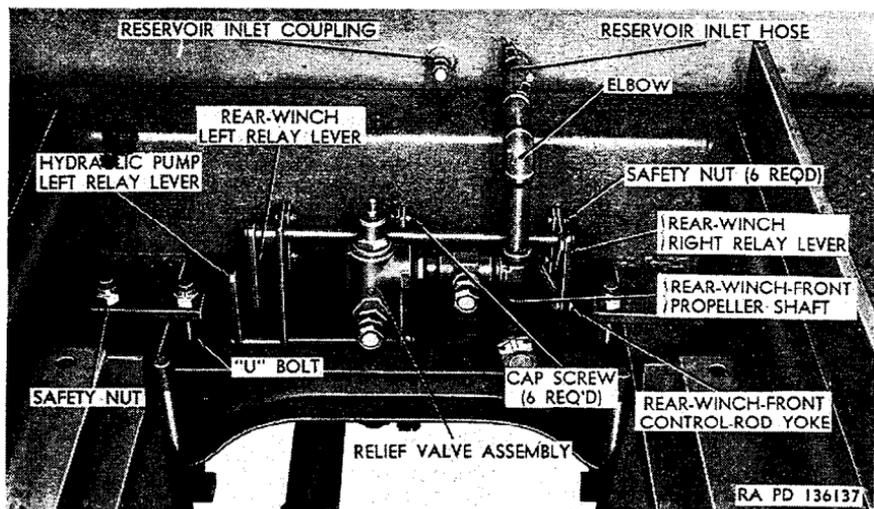
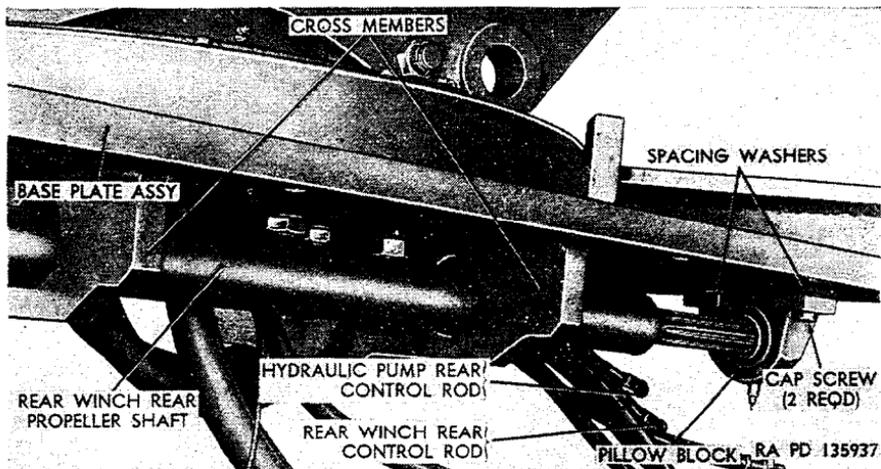

Figure 275. Rear view of forward end of wrecker body with crane removed M62.
Figure 278. Right side view of underside of crane base plate removed from vehicle M62.
- (2) *Winch-drive.* Power for operating the winch is supplied by the truck engine through a power-take-off (par. 208a(4)), which is connected by a propeller shaft to the power divider (par. 268a(4)). A forward propeller shaft (fig. 275) and a rear propeller shaft (fig. 276), connected by a universal joint which is supported by a pillow block (M, fig. 277), extend from the power divider to the bearing assembly (fig. 276) bolted to the rear of the wrecker body. A drive sprocket secured to the rear end of the bearing assembly shaft is connected by a drive chain to the driven sprocket secured to the front end of the winch drive shaft. The driven sprocket is secured to the drive shaft by a shear pin which prevents damage to the winch resulting from overloading.
- (4) *Control linkage.* The rear winch control linkage is comprised of the winch shift lever (fig. 276), rear control rod (fig. 278), relay levers (fig. 275), and front control rod. The rear end of the rear control rod is connected to the lower end of the winch shift lever by a yoke and pin. The front end of the rear control rod is connected to the left relay lever (fig. 275) by a yoke and pin. The rear end of the front control rod is connected to the right relay lever (P, fig. 277) by a yoke and pin. The front end of the front control rod
- (1) Disconnect front propeller-shaft front universal joint from yoke on power-divider winch output shaft (par. 211*a*(1)).
- (2) Pull propeller shaft toward front of vehicle, removing rear universal joint with slip yoke assembly from front (splined) end of rear propeller shaft (fig. 278).
- (3) Disconnect front propeller-shaft rear universal joint from rear propeller shaft slip yoke (par. 211*a*(1)).
- (4) Remove universal joint at each end of front propeller shaft (par. 211*a*(3)).
- (1) Install universal joint at each end of front propeller shaft (par. 211*b*(1), (2), and (3)).
- (2) Attach rear propeller shaft slip yoke to front propeller-shaft rear universal joint (par. 211*b*(4) and (5)).
- (3) Slide rear propeller shaft slip yoke, with front propeller shaft attached, on front (splined) end of rear propeller shaft (fig. 278).
- (4) Connect front propeller-shaft front universal joint to yoke on power-divider winch output shaft (par. 211*b*(4) and (5)).
- (1) Disconnect front propeller-shaft rear universal joint from slip yoke on front (splined) end of rear propeller shaft (par. 211*a*(1)).
- (2) Slide slip yoke from front end of rear propeller shaft (fig. 278).
- (3) Remove two cap screws (fig. 278) securing pillow block to underside of base plate, and remove spacers from between base plate and pillow block.
- (4) Loosen setscrew securing pillow-block-bearing inner race to rear propeller shaft, and slide pillow block forward and remove from shaft.
- (1) Slide pillow block (fig. 278) on front (splined) end of rear propeller shaft, and align mounting holes with holes in underside of base plate.
- (2) Place spacing washers between pillow block and base plate, and secure pillow block to underside of base plate with two cap screws.
- (3) Tighten setscrew in pillow-block-bearing inner race to secure race to shaft.
- (4) Slide slip yoke on front end of rear propeller shaft, and connect front propeller-shaft rear universal joint to slip yoke (par. 211b(4) and (5)).